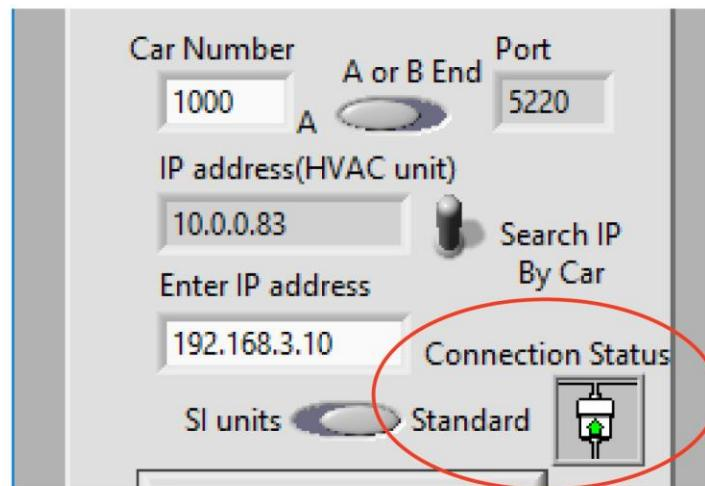

Figure 8-7: Communications Status
2. If available, check Comms Status on Cab Display or PTU. Refer to Figure 8-7.
- 1) Check PTU and verify communications icon is green after power cycle. Refer to Figure 8-7.